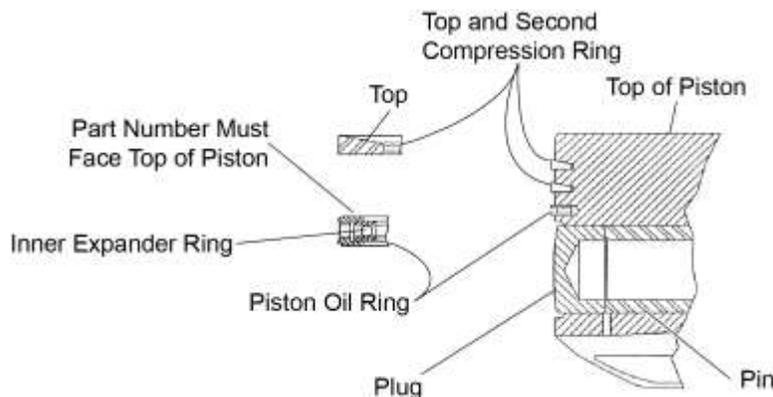

Figure 23
- A. Start from the top down, use the commercially available piston ring expander tool to remove the two top piston compression rings, the piston oil ring, and the inner expander ring (with the piston oil ring) (Figure 23).
- C. With the piston top side up on a workbench, install the inner expander ring in the first groove above the piston pin hole (Figure 23).
- E. Install the two top compression rings (Figure 23) with the word "Top" toward the top of the piston in the remaining top grooves. Orient the gaps in the two compression rings 180° from each other parallel with the piston pin hole.